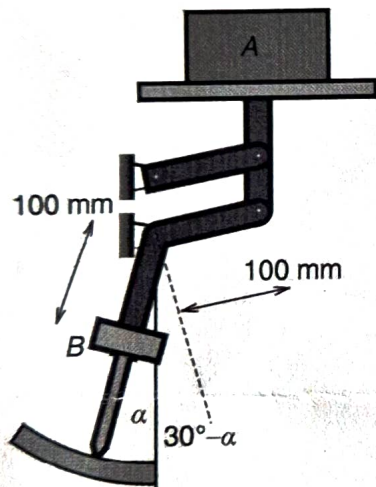

Fig. 1
- Q.1. The mechanism is used to weigh mail A package placed at mail (Fig. 1). A package placed at A causes the weighted pointer to rotate through an angle α . Neglect the weights of the members except for the counterweight at B, which has a mass of 4 kg. If $\alpha = 20^\circ$, what is the mass of the package at the package at A? (04)